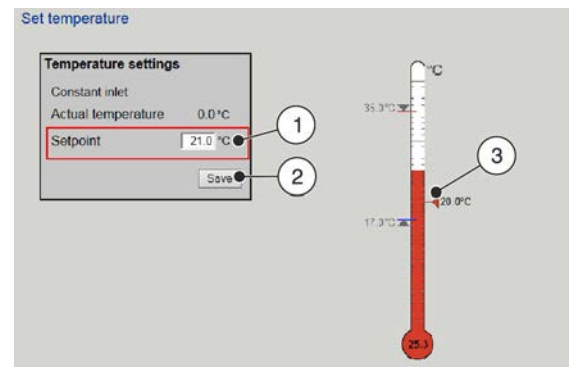

Fig. 47: Setting a temperature setpoint value
The 'Set temperature' screen (Fig. 47) shows the current temperature and allows you to set a temperature setpoint.
2. ▶ Enter the temperature setpoint into the 'Setpoint' field (Fig. 47/1) or move the red triangle on the thermometer (Fig. 47/3) to the required temperature setpoint.
3. ▶ Click on 'Save' (Fig. 47/2).